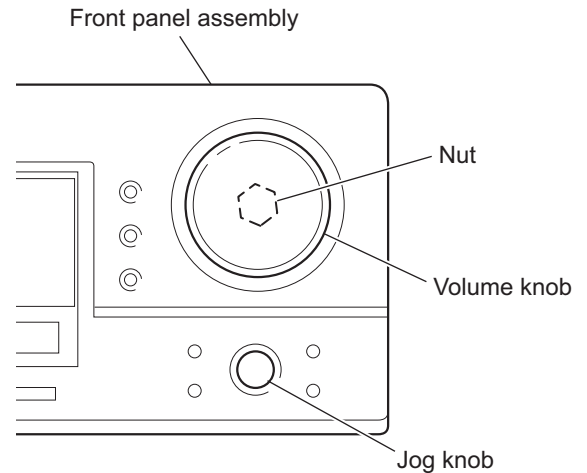

Fig.16
2.15 Removing the system control board and power switch board (See Figs.16 and 17)
- (1) Pull out the volume and jog knobs from the front side of the front panel assembly, remove the nut attaching the system control board. (See Fig.16)